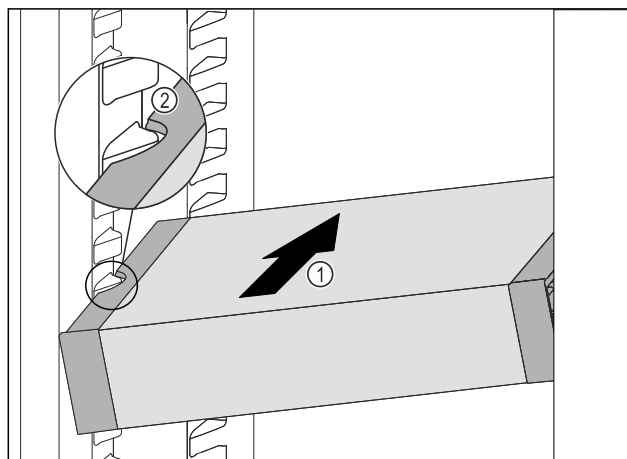

Fig. 142
- Insert the VarioSafe into the fridge section at an angle Fig. 142 (1) until the recesses in the side Fig. 142 (2) of the VarioSafe are at the level of the support rib in the fridge section.